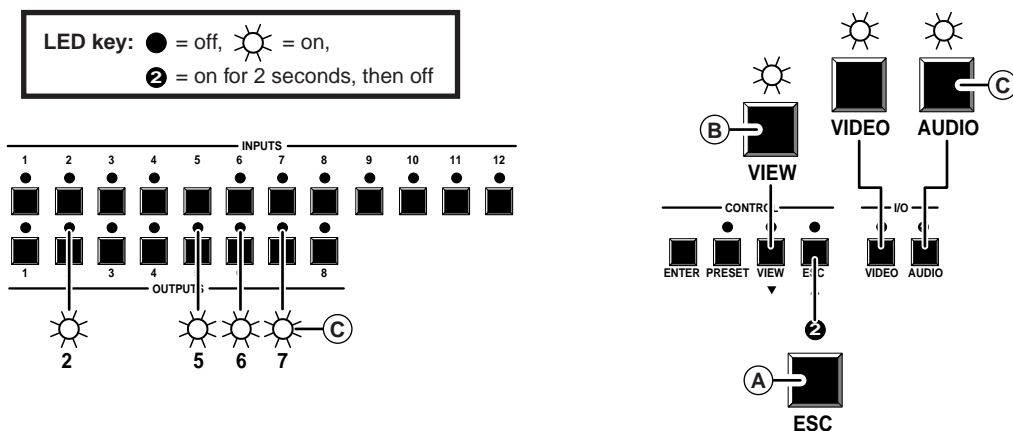
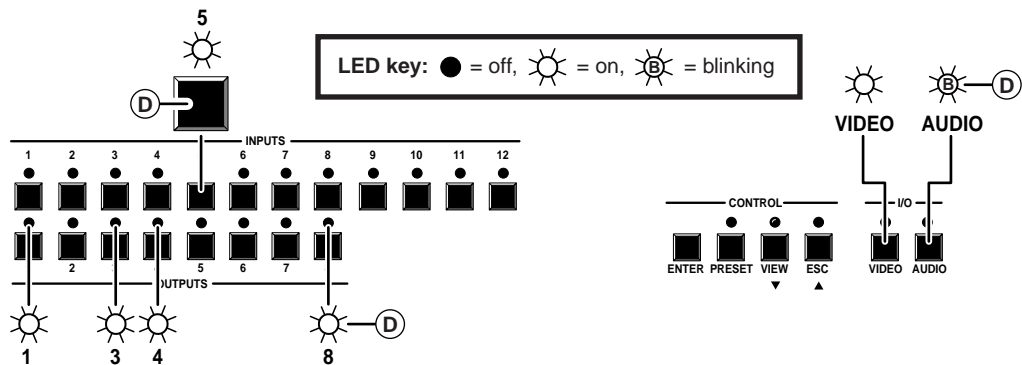
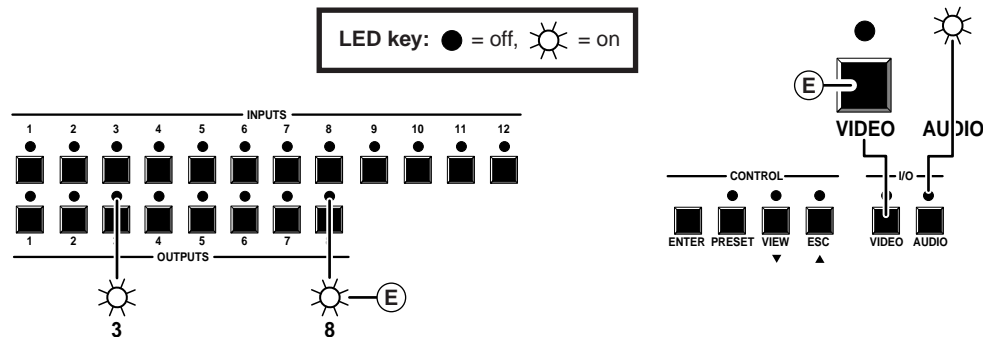

Figure 3-7 — Example 4: Viewing the current configuration
Figure 3-8 — Example 4d: Viewing the current configuration, video and audio
Figure 3-9 — Example 4e: Viewing the current configuration, audio only
See figure 3-7, figure 3-8, and figure 3-9 and the following steps for an example of viewing the video and audio, audio-only, and video-only ties in the current configuration on a 12x8 Matrix 50 switcher with audio.
- D Press and release the input 5 button (figure 3-8). The input 5 LED lights.
- (E) Press and release the Video button to toggle the Video LED off (figure 3-9). If audio is broken away, the Audio LED stops blinking and lights steadily.